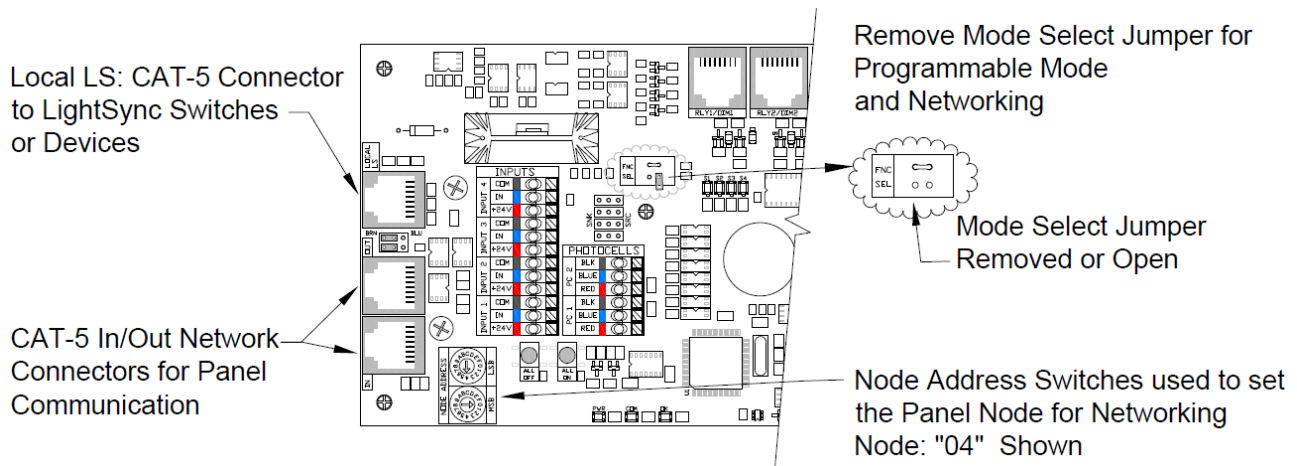

Figure 1
- LLEVO is shipped in programmable mode without the mode select jumper, see Figure 1
- The mode selection jumper is removed for Programmable mode, see Figure 1